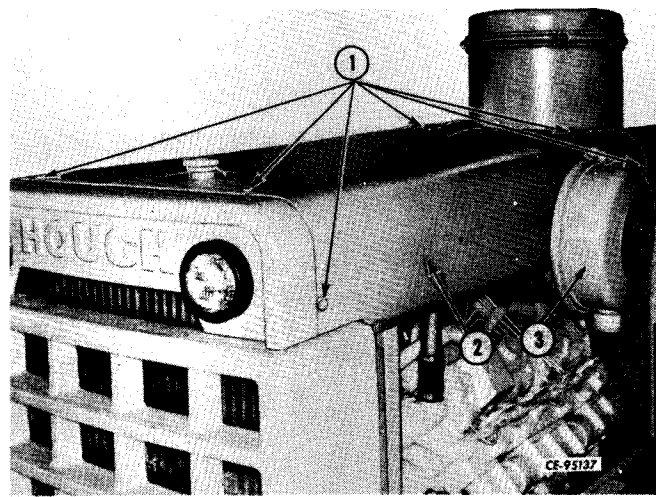

Figure 2-31
Using a suitable hoist, position hood (2, Fig. 2-31) on the grille and bulkhead. During hood installation, insert air cleaner (3) outlet tube on intake manifold. Install and tighten cap screws and nuts (1).